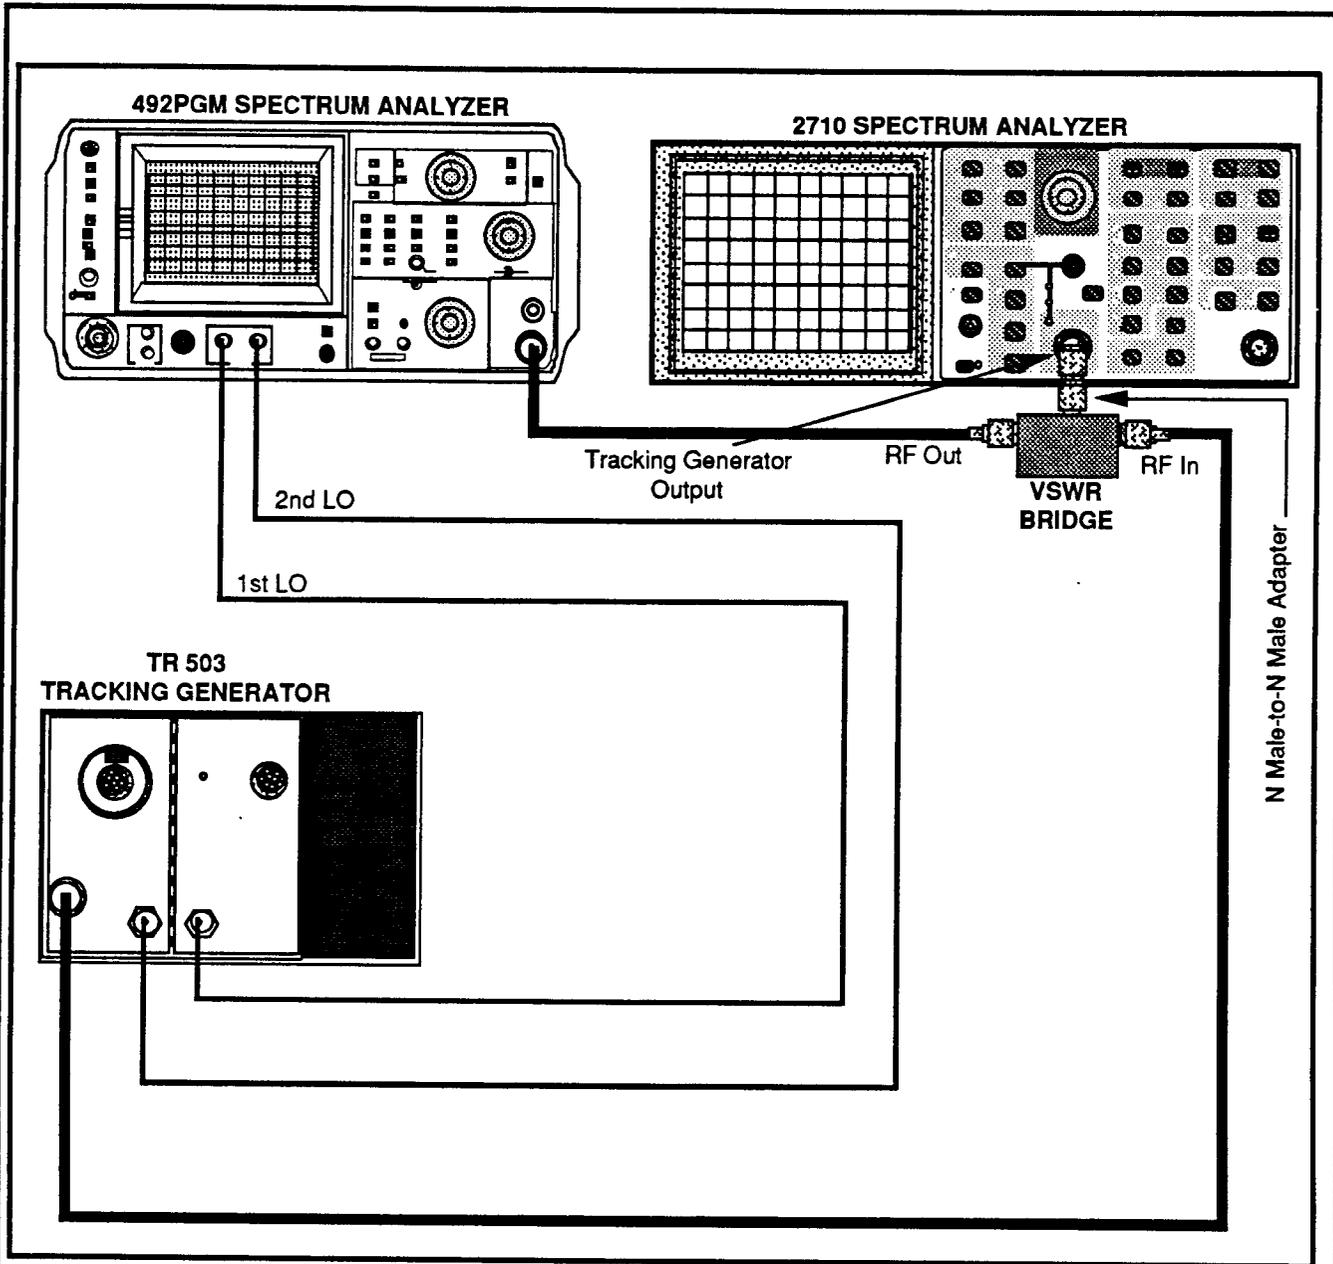

Figure 10. Test setup for measuring return loss.
a. Connect the test equipment as shown in Figure 10.